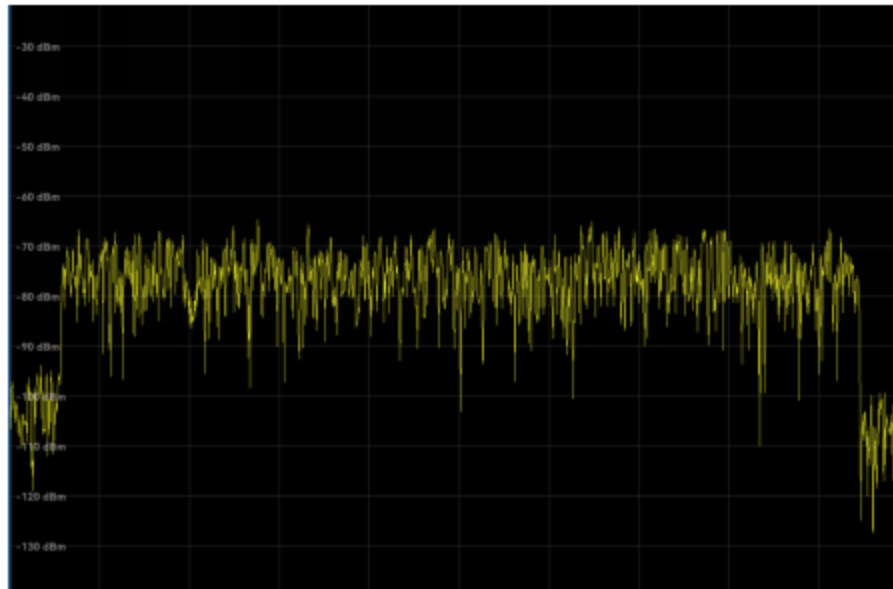

Figure 7.28 4 GFDD interference mode results
- Step 5. Observe the 4 GFDD interference mode, and the test results are shown in Figure 7.28: